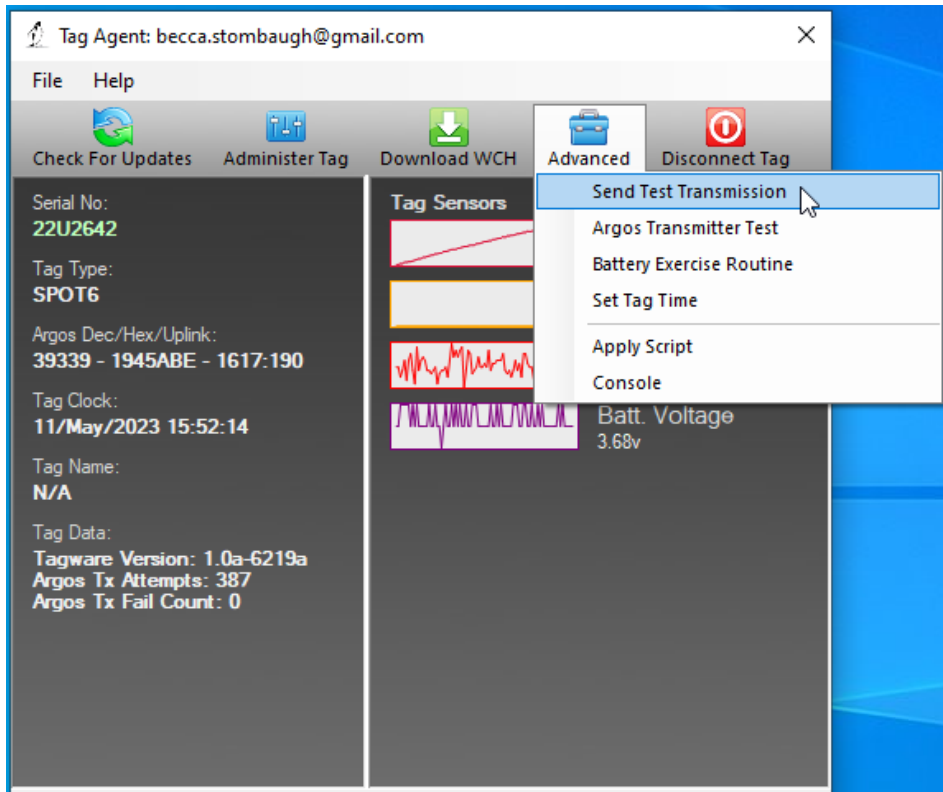

Figure 20—example of Send Test Transmission.
- **Depending on your application, SPOT-325 and SPOT-371 tags should be held either at desk level or higher than desk level.** Think of the desk as the surface of the water. You should hold the tag in a way that imitates the height of the instrument when the animal comes out of the water. If the tag will be mounted upon something, for this test hold the tag high (~15-30 cm above the desk), as well as grounded against something like a computer. See Figure 20.